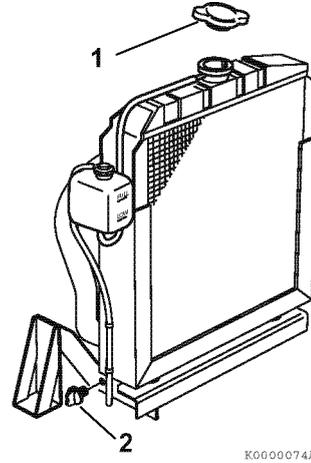

Figure 5-18
2. Remove the radiator cap (1, **Figure 5-18**).
3. Remove the drain plug or open the drain valve (2, **Figure 5-18**) at the lower portion of the radiator and drain the engine coolant.